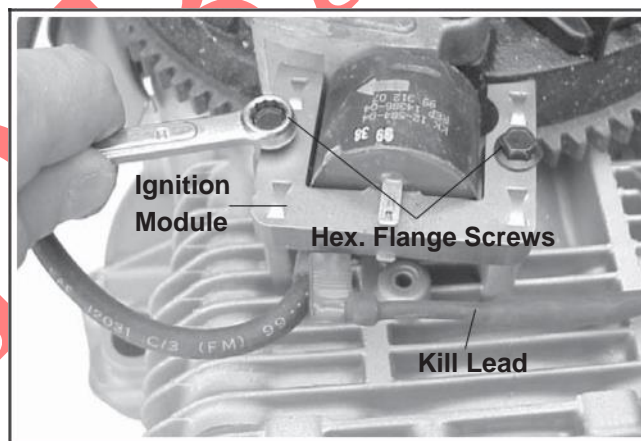

Figure 9-21. Removing Ignition Module.
1. Disconnect the kill lead from the ignition module. See Figure 9-21.